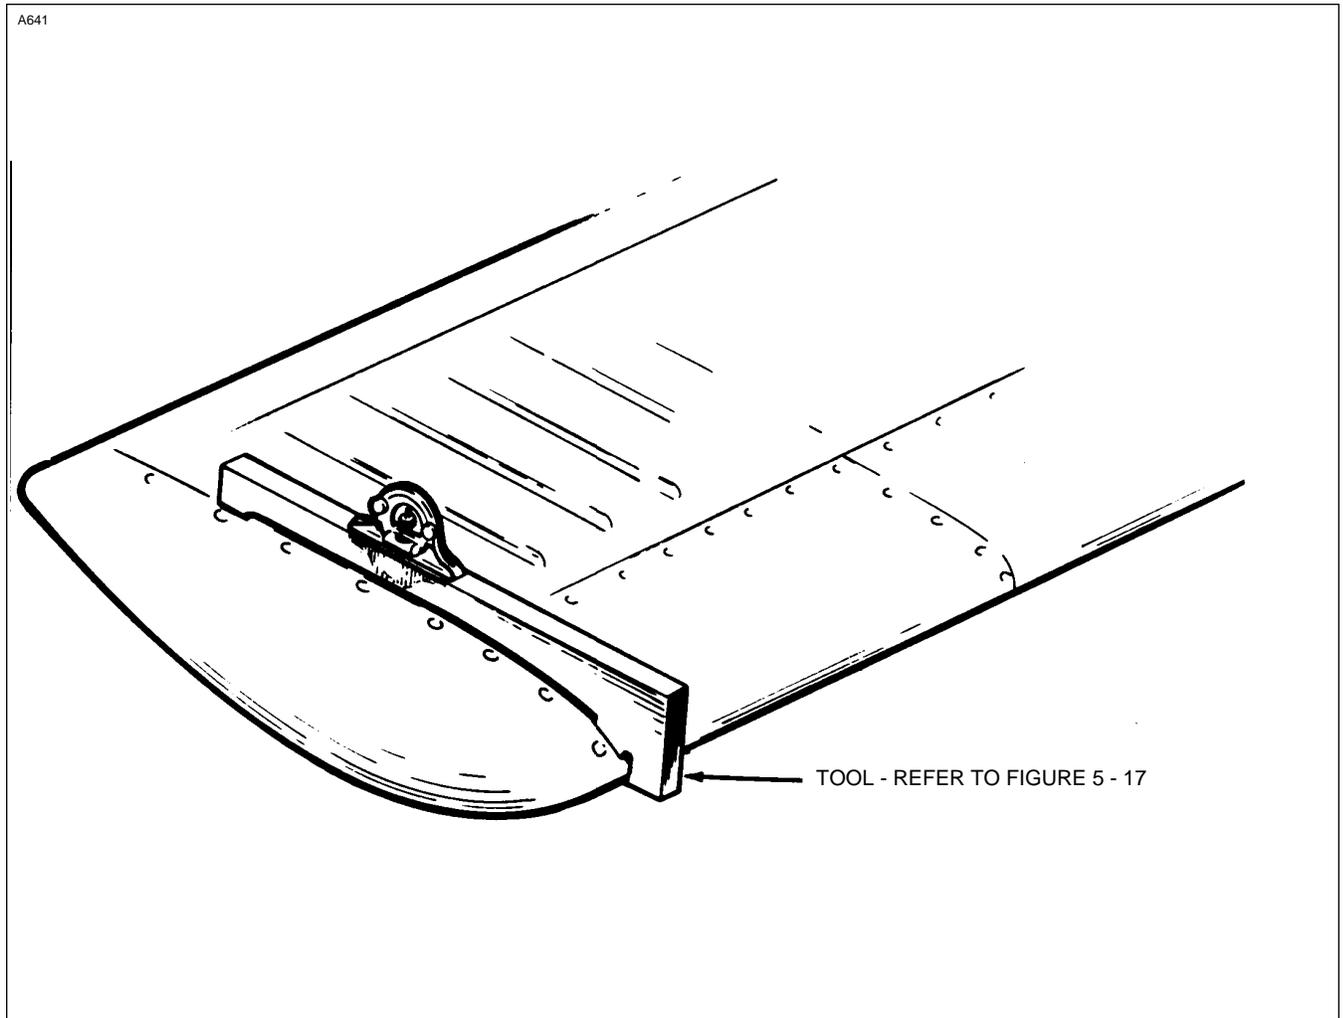

Figure 5-6. Stabilator Rigging Tool
#### 5-18. REMOVAL OF STABILATOR TRIM ASSEMBLY. (FORWARD) (Refer to Figure 5-6.)
**5-19. INSTALLATION OF STABILATOR TRIM ASSEMBLY. (FORWARD) (Refer to Figure 5-6.)**
**5-20. REMOVAL OF STABILATOR TRIM ASSEMBLY. (AFT) (Refer to Figure 5-6.)**